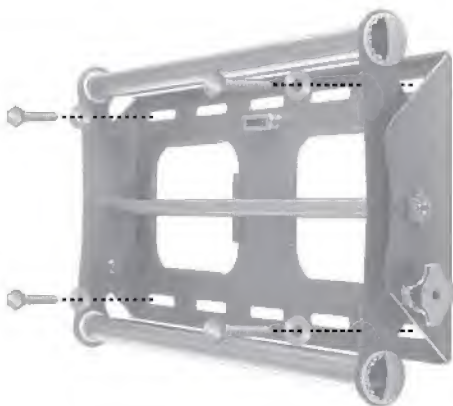

Fig. 1 – Attach the wall plate to the wall.
5. With the help of another person, replace the wall plate and fix it to the wall using the Lag Bolts (Q) and Lag Bolt Washers (R) provided (Fig. 1).
2. With the help of another person, mark off six (6) locations for fixing the mount to the wall.
4. Insert one Concrete Anchor (P) into each hole. A hammer can be used to lightly tap the anchors into place if necessary.